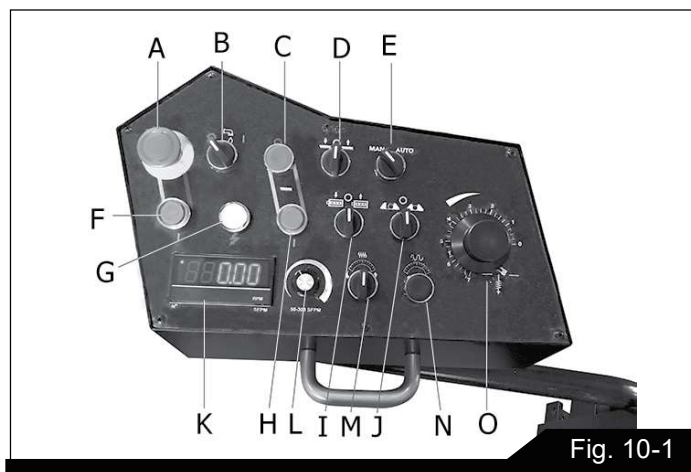

Fig. 10-1
Refer to Fig. 10-1.
1. Raise cutting head approximately six inches above work piece and turn feed rate knob (O, Fig. 10-1) to zero.
2. Turn power on and turn speed adjuster knob (see L, Fig. 10-1) to match appropriate material. The LED display will show the current speed. Consult a machinery handbook for recommended speeds for various materials.
Rate of feed is adjusted with control dial (O, Fig. 10-1).
4. Turn clamp switch (see J, Fig. 10-1) to the right to clamp the workpiece.
6. Release clamping pressure by turning switch (J, Fig. 10-1) to the left.
When machine is set to Auto mode (switch E, Fig. 10-1) the saw head will return automatically to raised position.
Raise saw head to clear vise, and turn switch M, (see Fig. 10-1). Press button N simultaneously to increase speed of positioning. When desired angle nears on the LED display, release button N and use the slower speed for final positioning.